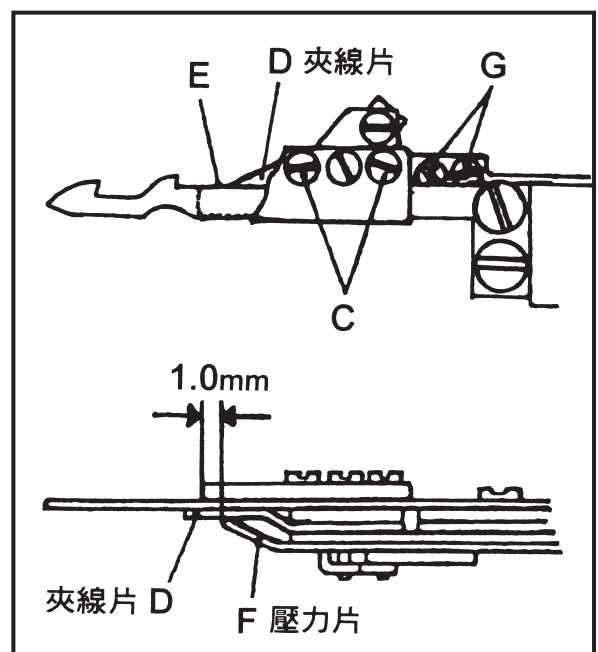

Fig.40
loosen the screw (G) to adjust the position of Clamp Spring Pressure. (Fig.40)